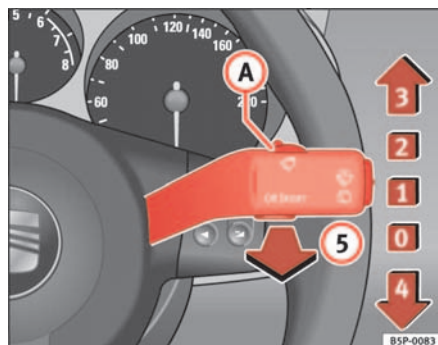

Fig.85 Windscreen wiper and windscreen wash lever
The windscreen wiper lever ⇒ fig. 85 has the following positions:
- The next speed down will automatically be selected if wiper speed ② ⇒ page 120, fig. 85 or ③ is selected when the vehicle stops. The set speed will be resumed when the vehicle starts again